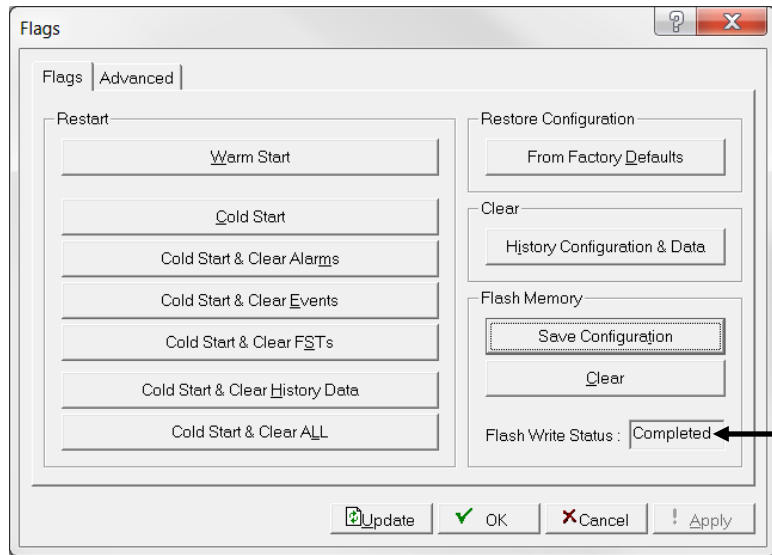

Figure 3-9 Flags screen
3. Click **Yes** to begin the save process. The Flash Write Status field on the Flags screen displays *In Progress*. When the process ends, the Flash Write Status field on the Flags screen displays *Completed* (see Figure 3-9).